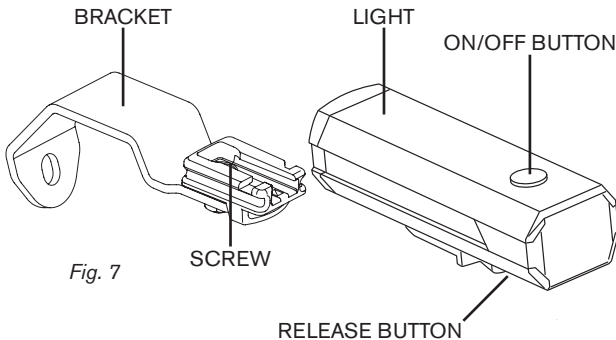

Fig. 7
- Once the light bracket is installed, fit the light by simply sliding into the plastic housing (fig. 7) on the front of the bracket until the light 'clicks' into place
- To remove the light, pull forward while pressing the release button (fig. 7) upward, towards the body of the light
- Regularly check that the fixing screw (fig. 7) on the bracket is tight
To turn the light on or off press and hold the On/Off switch (fig. 7). The On/Off switch is also used to cycle through the different lighting modes, these are: High, Low, Daytime HyperConstant and Flashing. Double-clicking the On/Off switch will return the High setting. When you turn the light on it will be in the mode last used. When the On/Off switch is illuminated red, the battery power is 20% or less and the light should be charged as soon as possible.